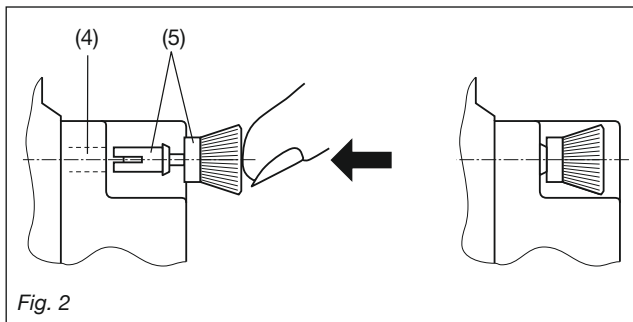

Fig. 2
To fix the module mechanically, insert the four plastic clips supplied (5) in the fixing holes (4) (Fig. 2).